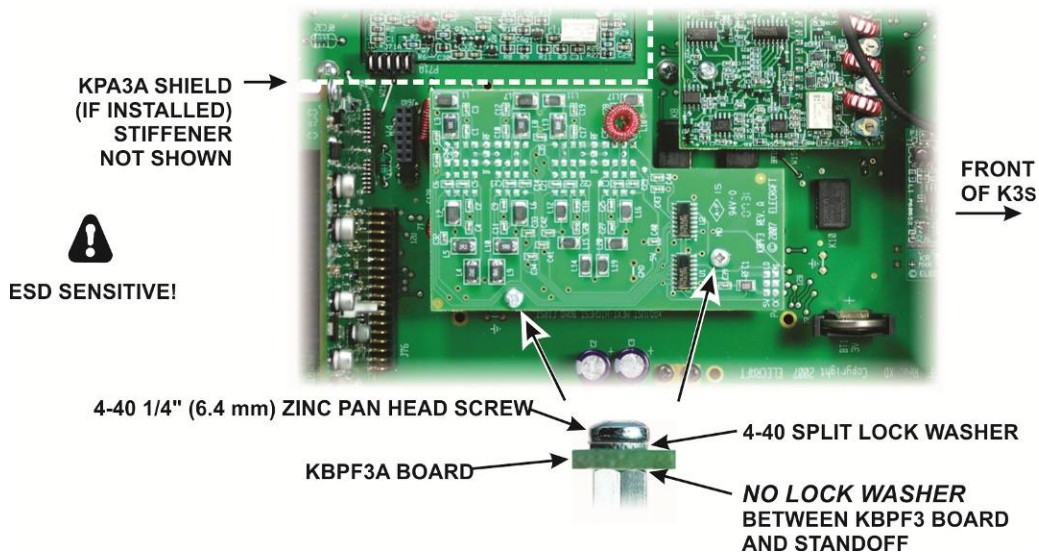

Figure 96. Installing the KBPF3A Option Board.
- Install the board on the standoffs you installed earlier as shown in Figure 96. The screws and lock washers needed are supplied with your KBPF3A Option kit. There are three connectors on the bottom of the KBPF3A board that must be properly mated to P44A, P44C and P44E on the RF board. Even though the connectors are hard to see if the KPA3A shield is installed, they can be aligned as follows: